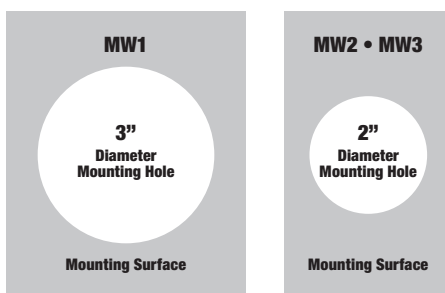

Figure 3
1. Cut mounting hole in smooth, flat, solid mounting surface (Figure 3).